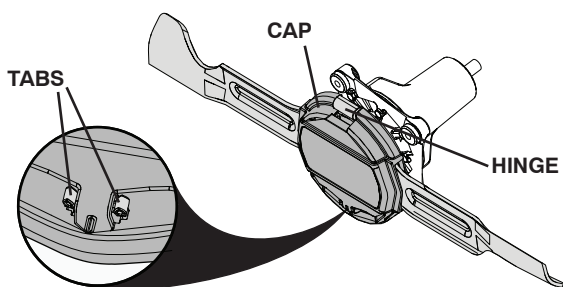

Fig. 16
BLADE REPLACEMENT (See Figs. 16 - 21)
- Squeeze tabs inward to release cap. Remove by lifting cap from hinge and set aside. (See Fig. 16.)